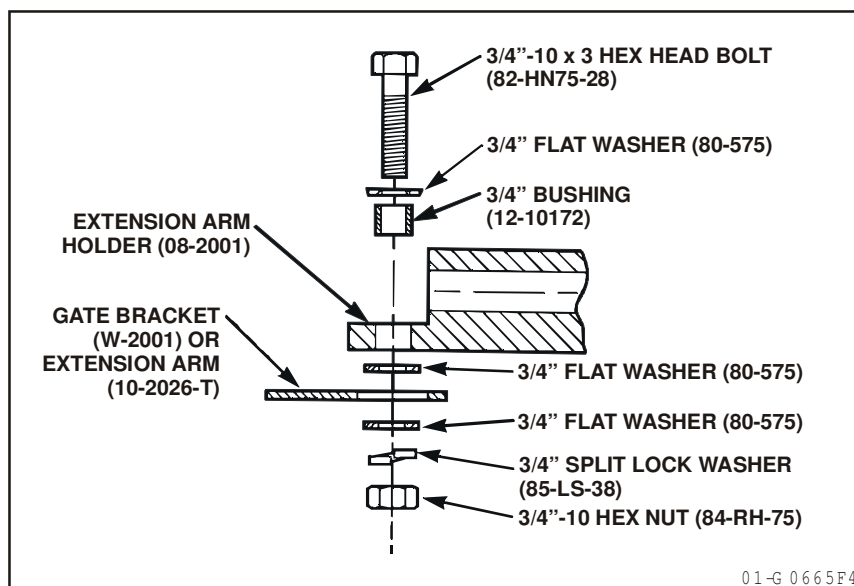

Figure 9
- 3 Assemble the (2) extension arm holders, one to the gate bracket and one to the extension arm, using bushings, 3/4 -10 x 3" bolts and 3/4" nuts, flatwashers and lockwashers as shown in Figure 9.